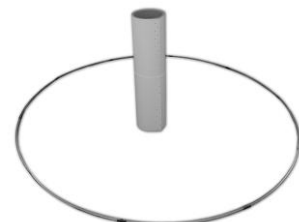

fig. 8
a) Unpack the coiled pool wall (CH) and place it vertically (the inner wall sticker up) on a cardboard at the centre of the pool circle. This will help you to unroll it easily and make sure that it doesn't get scratched by rubbing against the ground (fig. 8).